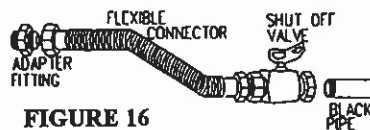

FIGURE 16
5. Install rigid black pipe, 1/2" type-L copper tubing or, if local codes permit, a 3/8" flex connector and shutoff valve to the gas line and the fireplace gas valve. Seal and tighten securely. An adapter fitting is required between the gas valve and the copper tubing or flex connector. **DO NOT KINK FLEX CONNECTOR.** **FIGURE 16.**